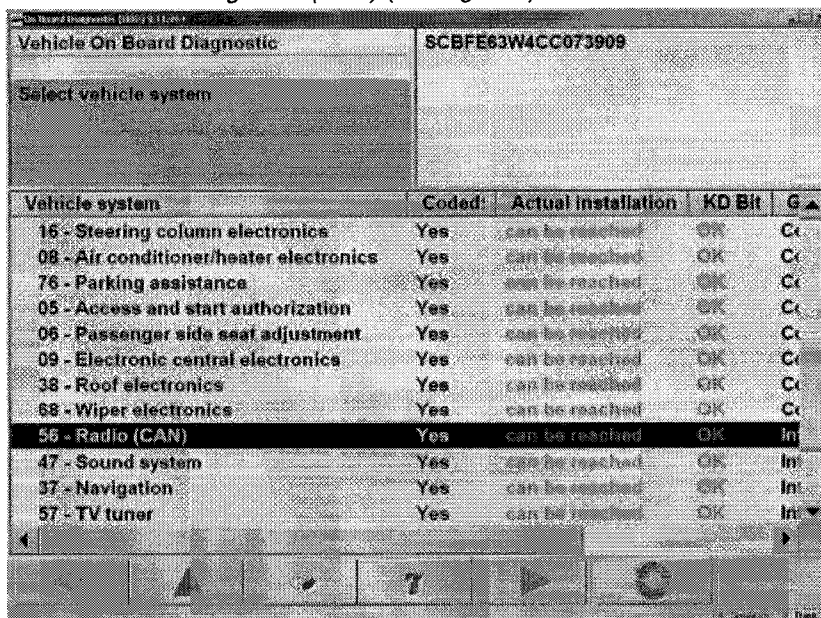

Figure 8
6. In *Select vehicle system* select **56 – Radio (CAN)** (see Figure 8)